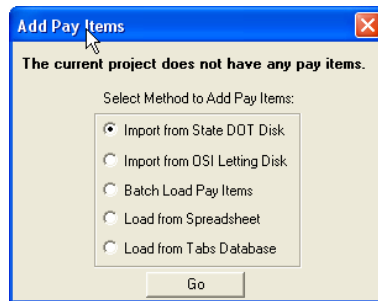
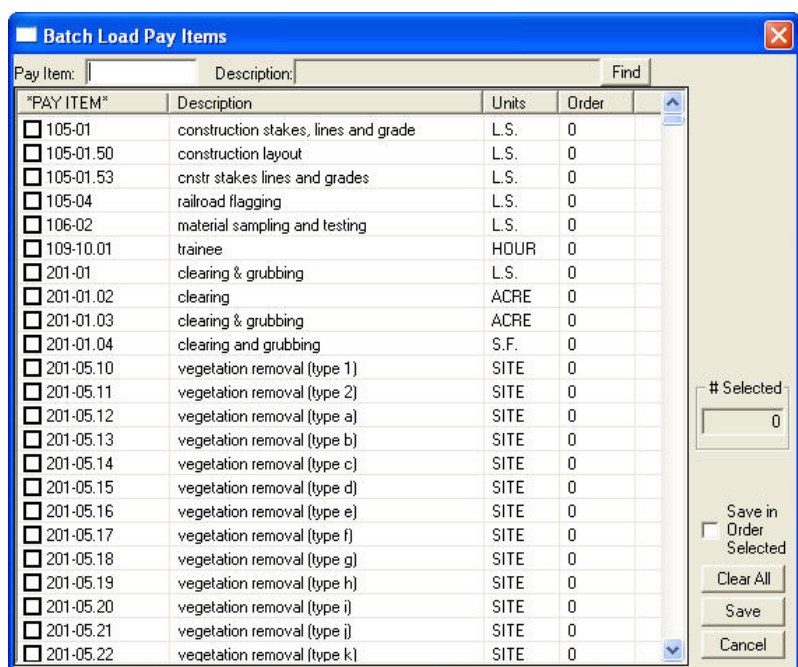
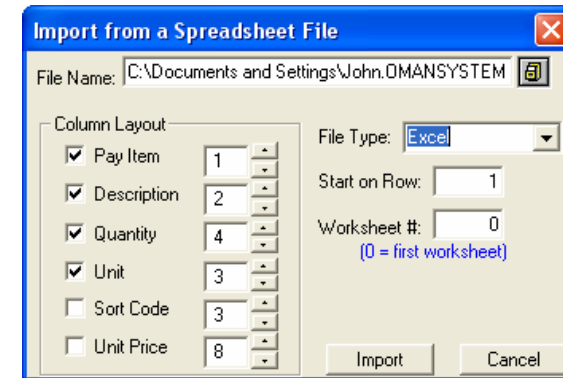

Figure 2.3
Figure 2.5a
Figure 2.6
- Select "Import from State DOT Disk" from the screen shown in Figure 2.3 and press GO.
- 1) **FOR A NEW PROJECT:** After you have named your new project and are at the screen shown in Figure 2.3, select the “Batch Load Pay Items” option. This will open the master pay item database showing all the standard pay items for the selected state. See Figure 2.5a.
- 2) **FOR AN EXISTING PROJECT:** If you want to add several more pay items all at once rather than one at a time in an existing job, open that job from the Project List window. Select Import/Export, and then select batch load pay items. The screen as shown in Figure 2.5a will be displayed. Follow the procedure outlined below to add pay items.
When the window shown in Figure 2.5a is first opened, the list is sorted by Pay Item. You can change the sort by clicking the column heading. You can sort the list by Pay Item, by Description or by Unit of Measure. You can also search the list for all or part of a pay item or pay item description. NOTE: In order to search by Pay Item or Description, you must first sort the list by that column. For example, to search by description, the list must be sorted by description.
After selecting “Load from Spreadsheet” from the “Add Pay Items” window (shown in Figure 2.3), the following screen (Figure 2.6) is displayed:
These fields allow you to select the items to import and the column number (in the spreadsheet file) that contains the data. If an item is **NOT CHECKED**, that item will **NOT** be loaded into PLUS. For example, if the pay item numbers were in column three of an Excel spreadsheet, you would select 3 next to pay item in the window in Figure 2.6. Do the same for all columns you want to import.